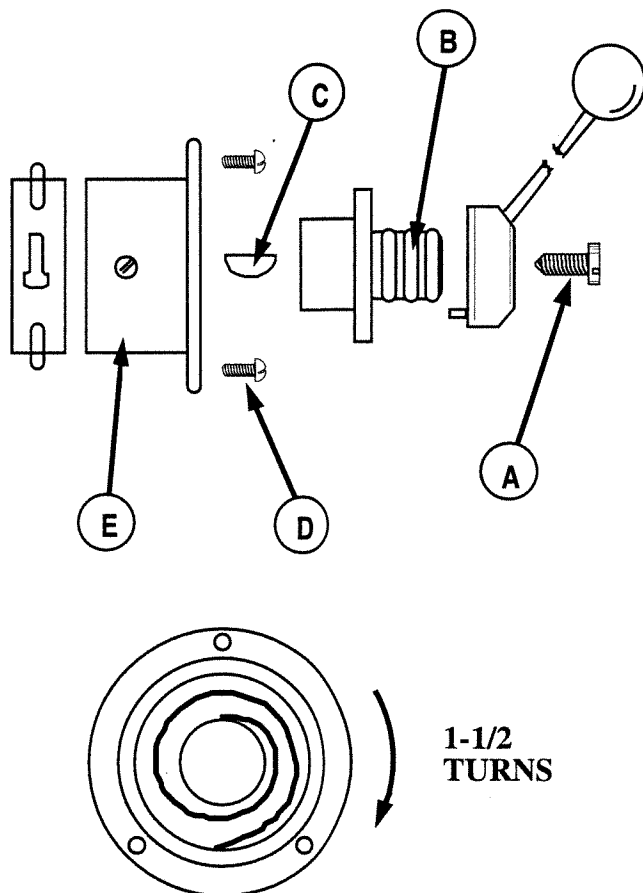

Figure 9-6. Balance Spring Replacement
9.6 BALANCE SPRING REPLACEMENT (Figure 9-6)